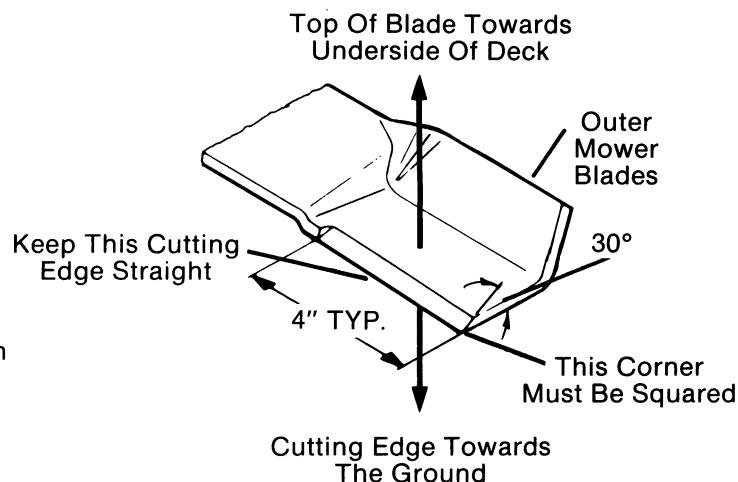

FIG. 15
- Sharpen blades following the original blade cutting edge contours. Refer to (Fig. 15) for correct blade sharpening dimensions and instructions.
F. After balancing, remount blade flush onto spindle assembly. Be sure blade is mounted with cutting edge towards the ground. (Fig. 15) Replace blade mounting hardware and tighten capscrews to a torque of 30 - 40 ft./lbs.